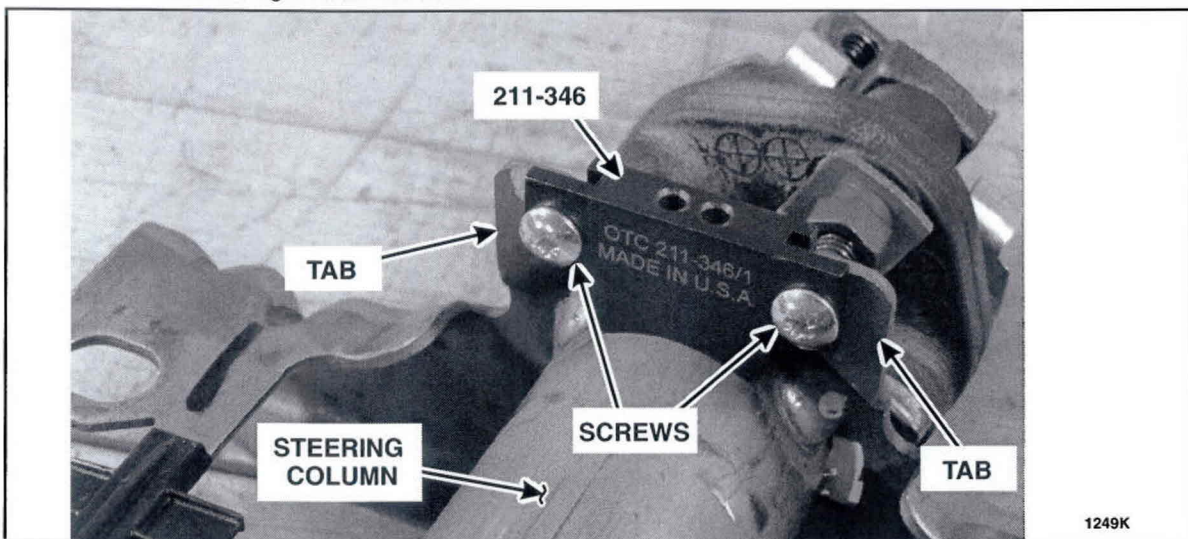

FIGURE 8
5. Install the special tool from Rotunda Special Tool Kit TKIT-2013A-FLM onto the two tabs located on the steering column, and secure with the two supplied screws. See Figure 8.